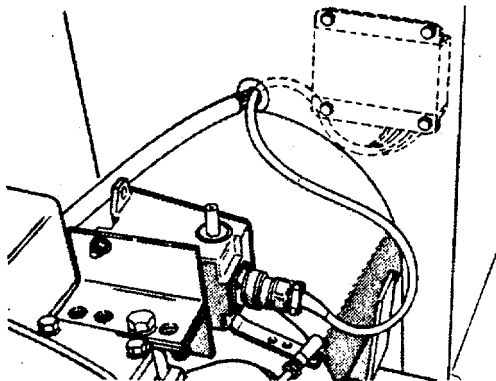

FIGURE 3-12. Wiring Harness.
- (1) Connect the wiring harness to the actuator. (FIGURE 3-12)